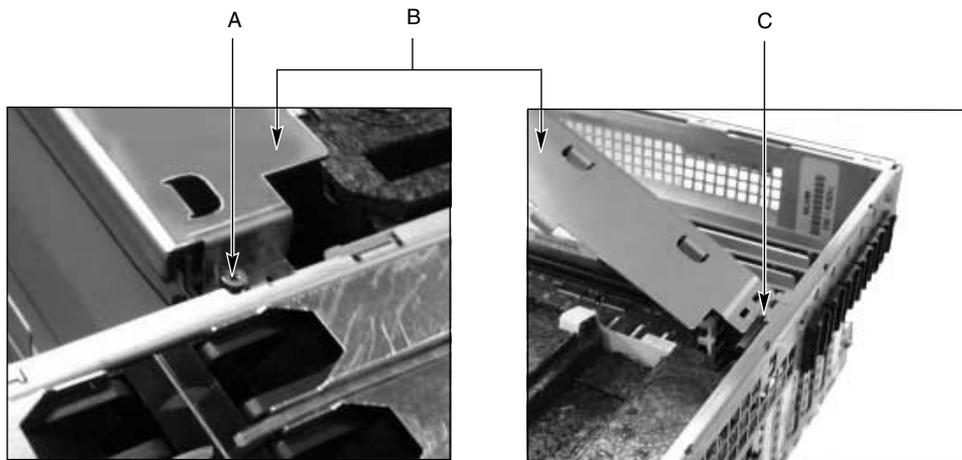

Figure 2-1 Memory Retention Bar
1. Unscrew the captive screw located at the front of the E-Bay. The captive screw is noted by "A" in Figure 2-1.
3. Release the clip located at the rear of the chassis. The clip is noted by "C" in Figure 2-1.
1. Slip slots in the memory retention bar into the clip located at the rear of the chassis. The clip is noted by “C” in Figure 2-1.
2. Secure the other side of the memory retention bar with the captive screw, as shown in Figure 2-1.